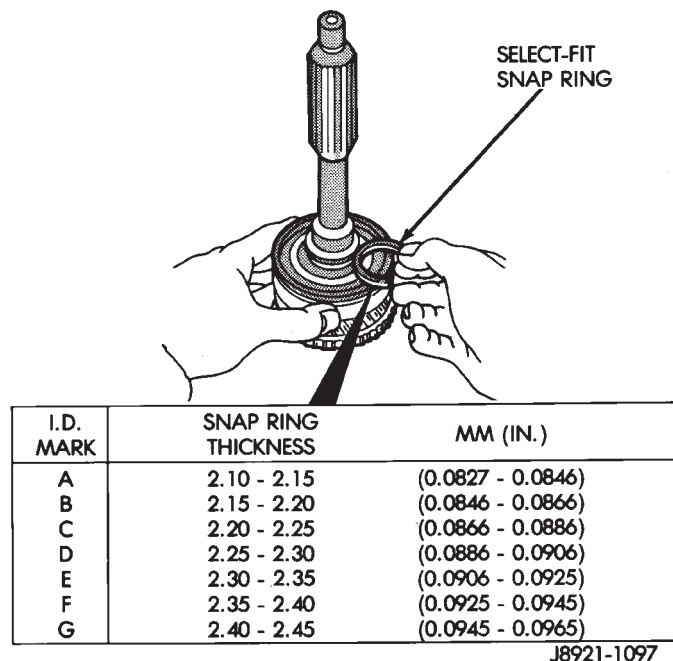

Fig. 109 Select Input Shaft Bearing Snap-ring
- (1) Position input shaft bearing onto input shaft. Be sure that the snap-ring groove in the bearing is facing forward.
- (2) Using Driver 6052, drive bearing onto input shaft.
- (3) Select the thickest snap-ring that will fit into the snap-ring groove of the input shaft (Fig. 109).
- (4) Lubricate output shaft pilot bearing bore of input shaft with petroleum jelly.